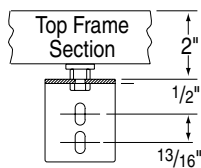
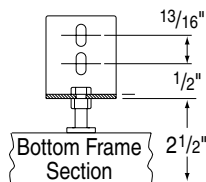

Figure 2
Figure 3
- ③ Position the upper wall brackets (with short stud) on the wall at desired height and correct distance apart. Determine distance apart by measuring the distance between the grommets in top section of the frame. When the frame is positioned on these brackets, the top of the frame is 2" above the top edge of the upper brackets (see Fig. 2). Make sure these brackets are level with each other. Installer must insure that the fasteners are of adequate strength and suitable for the mounting surface chosen (fasteners not provided). Position the frame on the upper brackets by inserting the studs into the grommets holes. Position the lower wall brackets (with long stud) so that the stud is inserted into the grommets holes in the bottom frame section. Fasten these brackets to the wall leaving 2 1/2" between the bottom of this bracket and the closest edge of bottom frame section (see Fig. 3).